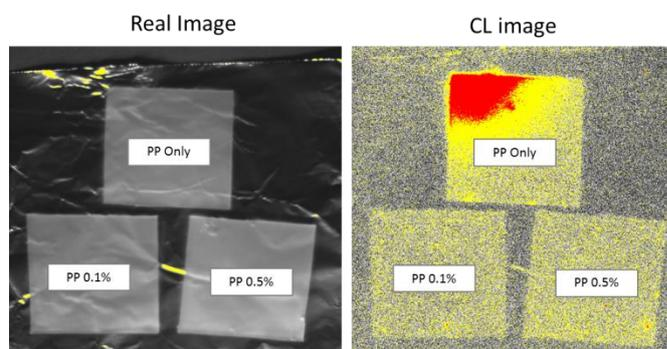

Fig.3 CL images of oxidized PP (upper: virgin; lower right: PP + Irganox 0.5%; lower left: PP + Irganox1%)
- Samples: oxidized PP with/without the additive Irganox1010 (BASF, 0.5%, 1.0%) used as a phenolic antioxidant. CL images were recorded with CCD type, CLA-IMG (Fig.3). Exposure time was 1min. Oxidation had commenced in the additive-free PP but, in contrast, the PP including additives was not oxidized.